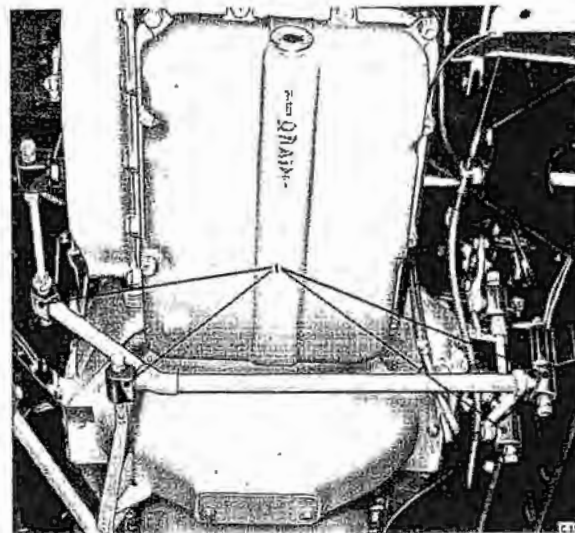
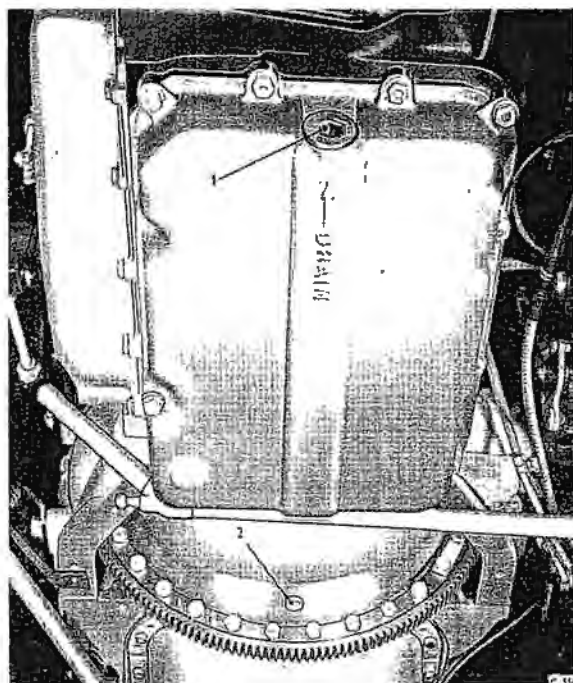

Fig. 22 Selector cross shaft disconnecting points
Fig. 23 Drain plugs
- 2 Remove the lower bell housing cover. On right-hand drive cars it would facilitate removal of the cover if the control cross-shaft is removed first (see Fig. 22 for removal points). Turn the fly-wheel to bring the fluid coupling drain plug to the lowest point, remove the plug and drain the fluid into a clean container (see Fig. 23). Do not use the drained fluid again, but after disposing of the fluid examine the residue carefully for evidence of gearbox wear, i.e. particles of clutch plate lining, servo band lining, white metal and bronze bushes and cast iron dust.